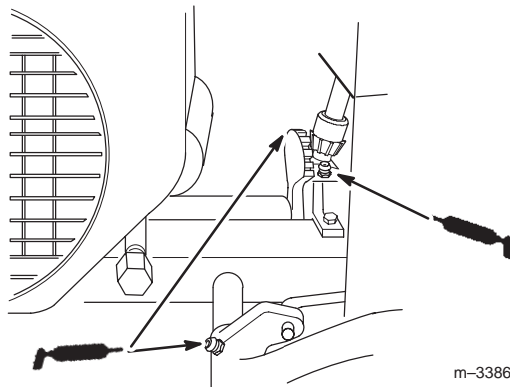

Figure 30
3. Lubricate the pedal(s) where it pivots on the mounting shaft, steering shaft and spread grease on steering sector teeth (Fig. 30).